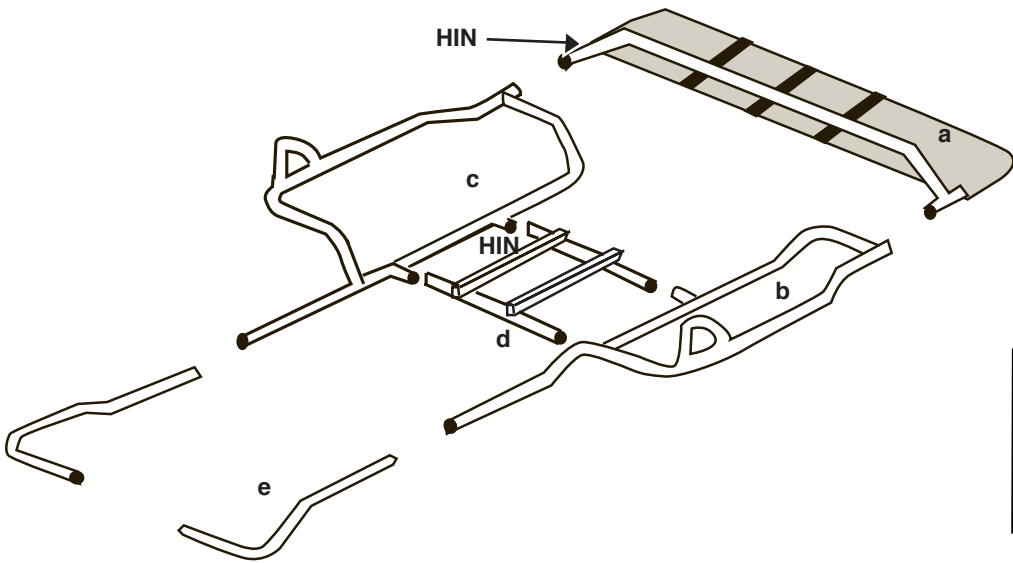

Fig. 1
1. Assemble Cargo Deck by sliding Mesh Cargo Deck over Rear Frame Member (see figure 1) and secure using attached Hook and Loop and Ladder Lock / Strap Fasteners.
3. Assemble Seat Support Frame Member to Left and Right Frame Members using (4) of the Snap Pins. (see figure 1)
4. Assemble Cargo Deck to Left and Right Frame Members using (2) Snap Pins (see figure 1).
5. Assemble Foot Bars to Left and Right Frame Members using (2) Snap Pins (see figures 1).
HIN is located on square tubing of seat support frame member and on right main frame member (See Figure 1)